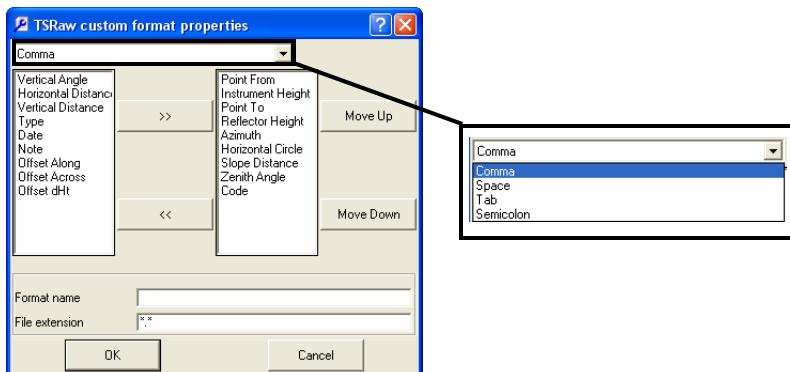

Figure 3-31. Select Delimiters
- On the *TSRaw custom format properties* dialog box, select the *Delimiters* from the drop-down lists (Figure 3-31).